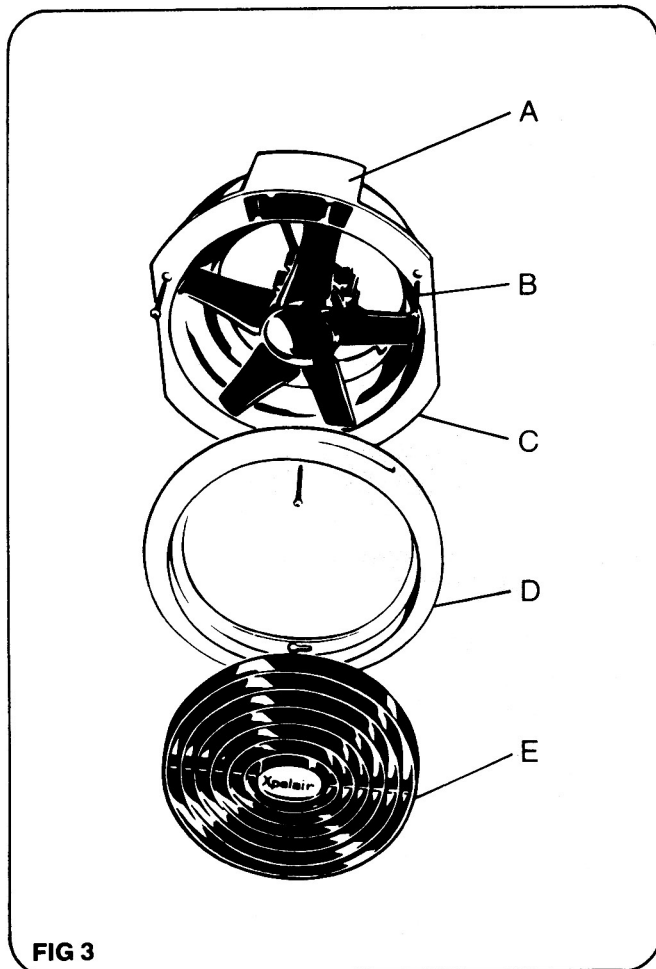
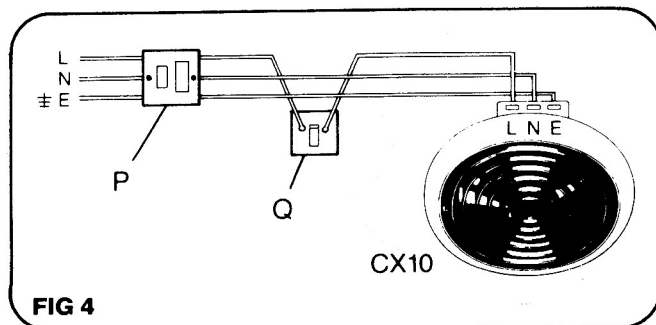

FIG 3
FIG 4
**INSTALLATION:** (for component references see fig. 3)
1. Remove the inlet grille (E) from the grille surround (D) by rotating the inlet grille (E) anti-clockwise.
2. Fit fixing screws (B) to the motor/duct assembly (C).
3. Pass the motor/duct assembly (C) through the hole space in the ceiling and position with screws (B) protruding through the hole.
4. Offer grille surround (D) over fixing screws (B) and lock into locating holes with a clockwise rotation. Tighten fixing screws (B).
5. The inlet grille (E) is inserted into the grille surround (D) and rotated in a clockwise direction until it locks into position.
6. From loft, void or attic connect the supply cable to the fan terminals in the terminal box (A) as shown in fig 4.
The CX10 must be connected to the supply with fixed wiring through a 5A fuse and a suitable double pole isolating switch with contact gap 3mm minimum (P) (not supplied) used only to isolate the fan for maintenance or cleaning purposes (see fig. 4).
Operation of the CX10 should be effected by an On/Off control switch (Q) (not supplied) see fig 4.